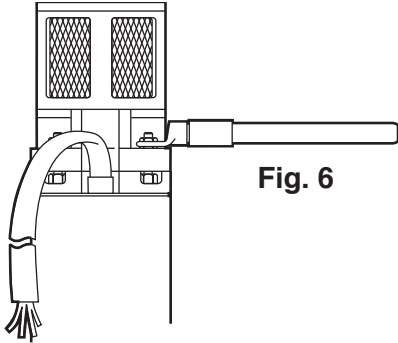

Fig. 6
- screw diagonally securing screw, possibly by dynamometric spanner (fig. 6), at the following values: